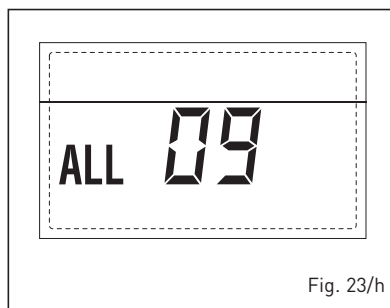

Fig. 23/h
**- ANOMALIA SONDA FERVIDOR "ALL 10" (fig. 23/i)**